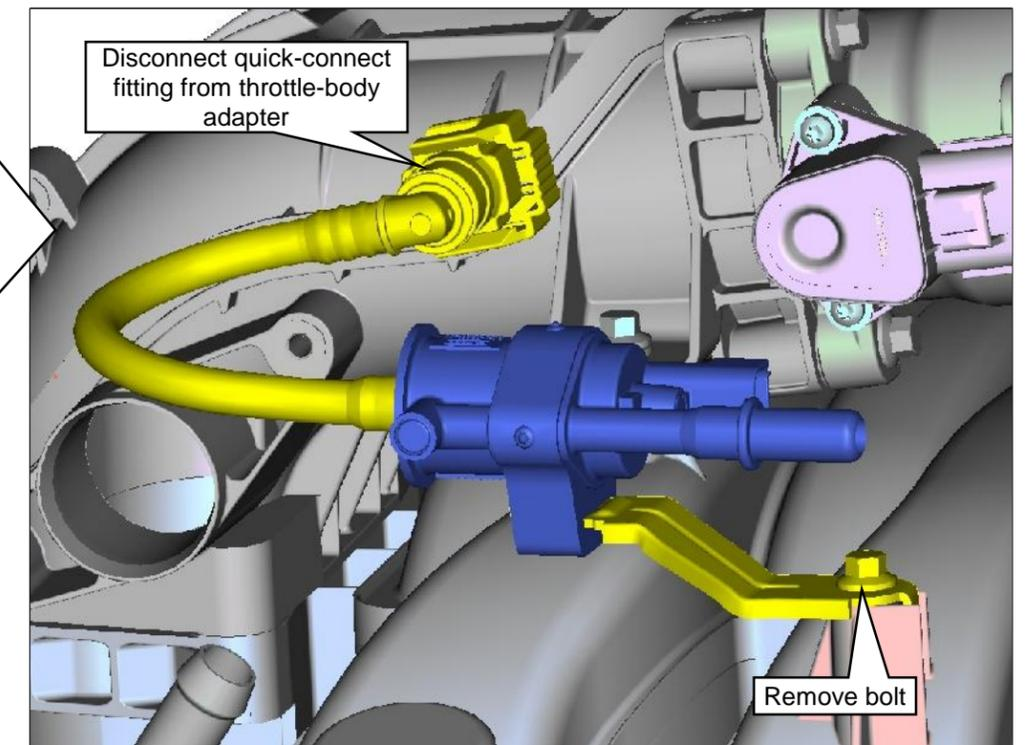

Figure 4.2
3. Disconnect the VMV hose quick-connect fitting from the throttle body adapter. **Figure 4.2.**
4. Remove the bolt securing the bracket and remove the VMV assembly (hose, VMV and bracket) for modification. **Figure 4.2.**